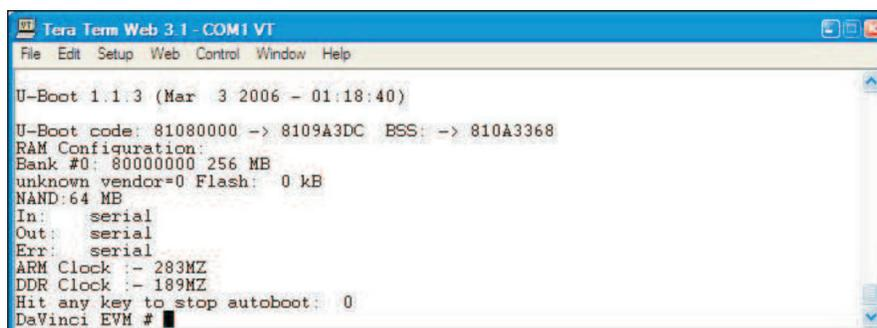

Figure 6. Serial Terminal Application Showing Successful u-boot is Flashed
- Verify that NAND u-boot is working properly. Power down DVEVM, disconnect the JTAG emulator and make sure the DVEVM is configured as in Section 2.1. Also, make sure the terminal application settings are 115200 baud rate, 8-bit data, one stop bit, no parity and no flow control. Turn on the DVEVM and you should be greeted with a u-boot prompt on the serial terminal as in Figure 6.